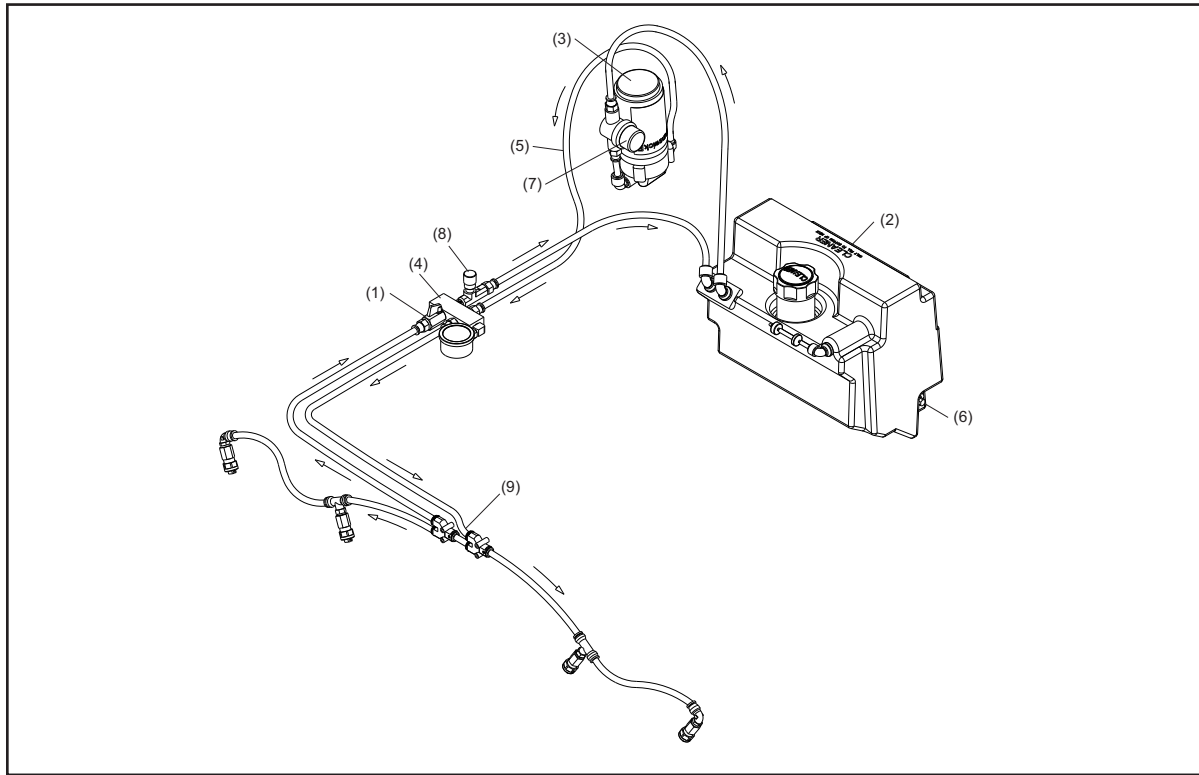

Figure 6-15. Draining the Cleaner Supply Tank
Parts needed: Drain tubing found in the spare parts kit, spare container. Refer to *Figure 6-15*.
3. Disconnect the supply tubing from the left hand (7-pin side) top position of the union “Y” assembly. Refer to number (9) in *Figure 6-15*.
Parts needed: Replacement Level Float Sensor (Part Number 14-100942-000). Refer to *Figure 6-15*.
Tools needed: spare container, 3/8" open ended wrench or socket. Refer to *Figure 6-15*.
Adjustment: 17 - 19 psi.. Refer to *Figure 6-15*.